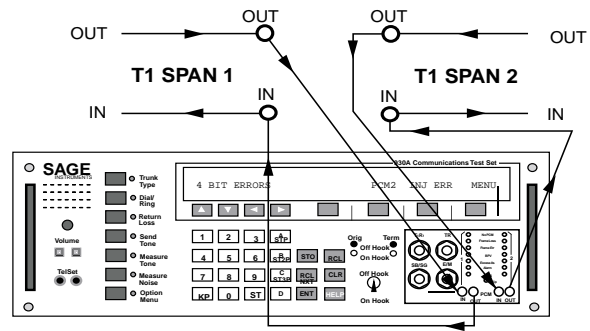

Figure 5-46.2
3. Press **K2** under **PCM1** to toggle between looking at the errors on **Side 1** and those on **Side 2**. (Refer to **Figure 5-46.2** for the connection setup.)